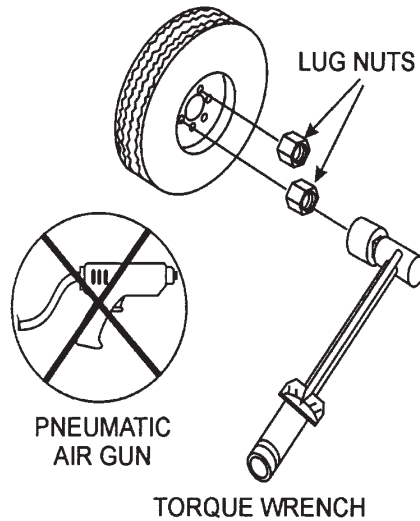

Figure 63. Wheel Lug Nuts Tightening Sequence
12. **Lug Nuts** — Used to secure the wheel to the wheel hub. Always use a torque wrench to tighten down the lug nuts. See Table 18 and Figure 63 for lug nut tightening and sequence.
2. Torque all lug nuts in sequence (Figure 63). **DO NOT** torque the wheel lug nuts all the way down. Tighten each lug nut in 3 separate passes as defined by Table 18.